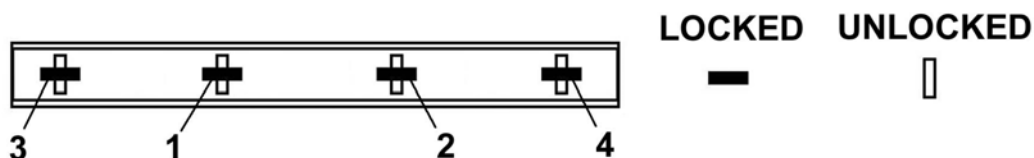

Figure 3-13 Draw Bolt Tightening Sequence
3. Confirm that heads of left side draw bolts are oriented in the vertical (unlocked) position (Figure 3-13).
7. Using ratchet or T-handle wrench, tighten the left side draw bolts from outside screen frame in the sequence shown in Figure 3-13.